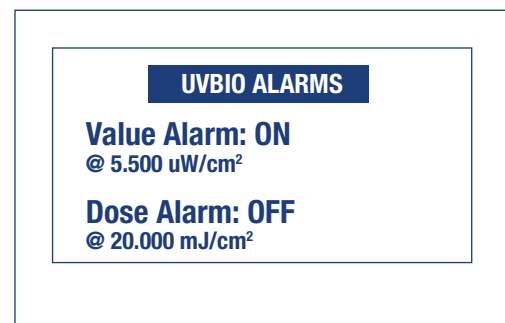

Figure 9 Example Of Alarm Settings Displayed On The PMA2100’s LCD For A Detector Identified As “UVBIO”.
- 4 Press the **Menu/Enter** key to enter the alarm-editing mode. The name of the currently selected detector is shown on the top of the LCD and the settings of the alarms are displayed as shown in Figure 9.